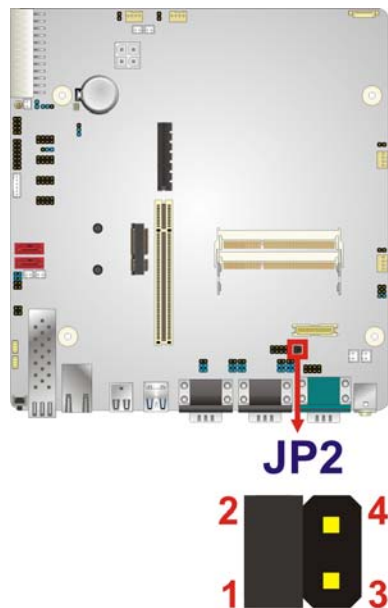

Figure 3-3: COM5 RS-232/422/485 Serial Port Selection Jumper Location
- Jumper Location:** See **Figure 3-3**
The COM5 RS-232/422/485 Serial Port Select jumper location is shown in **Figure 3-3**.